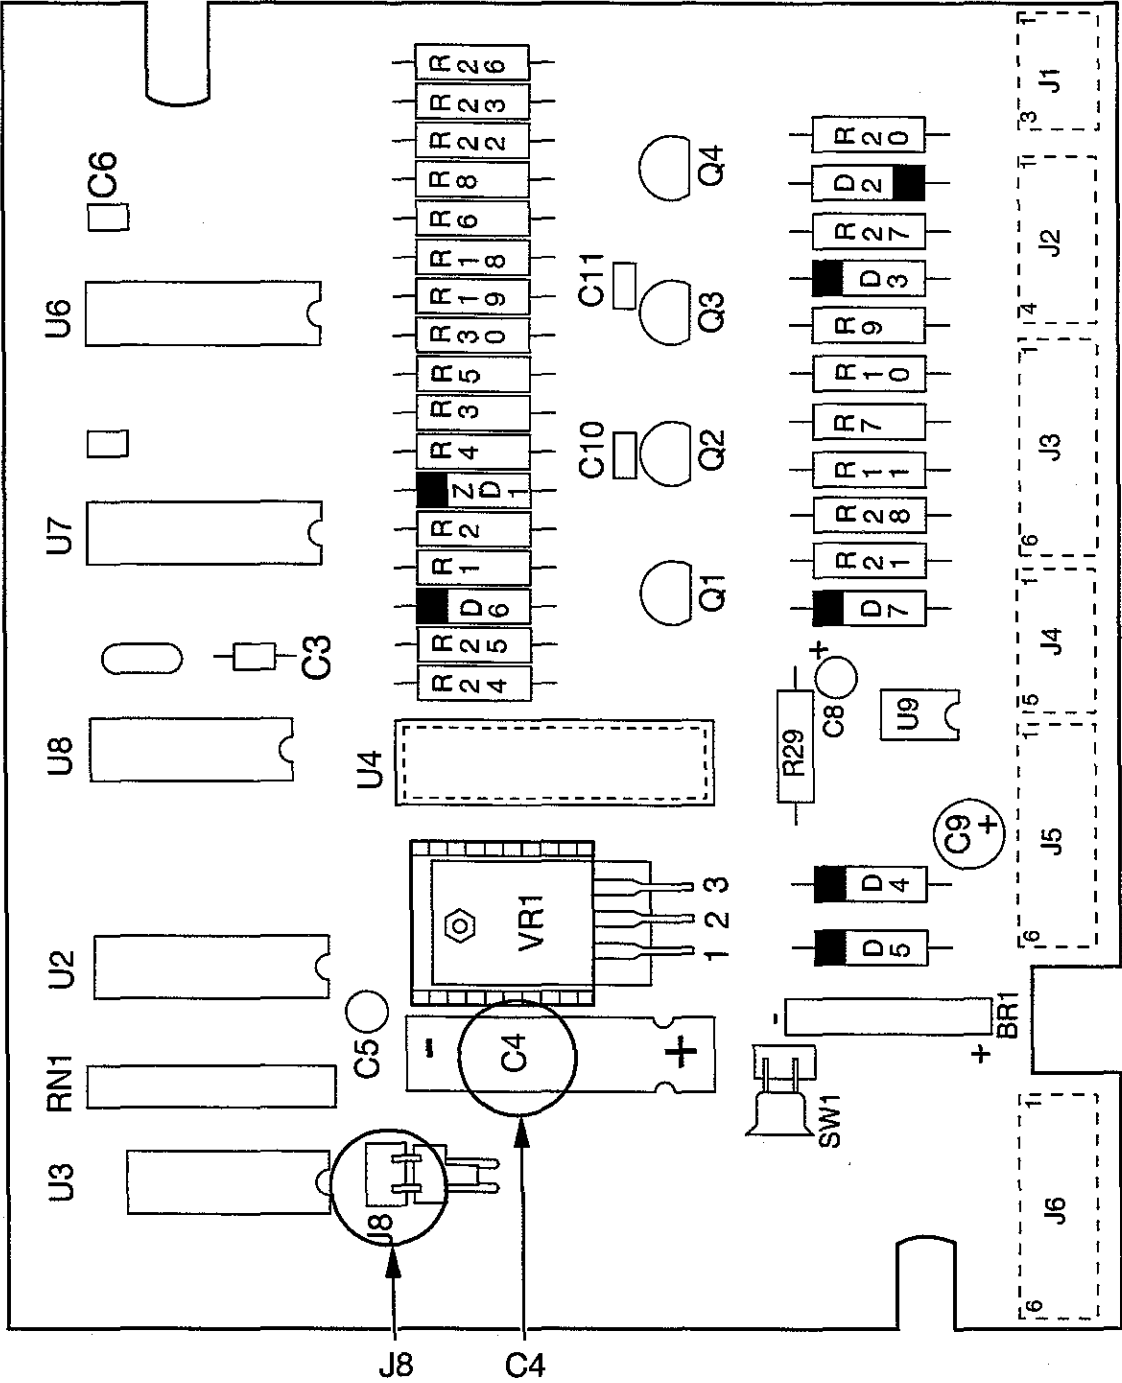

Figure 6-8
2. Attach multimeter test probes: + to U1 pin 7, Main Servo Controller Board, - to Analog Ground located on Analog Board. Use 300 mv scale. Refer to Figure 6-8 for location of U1.